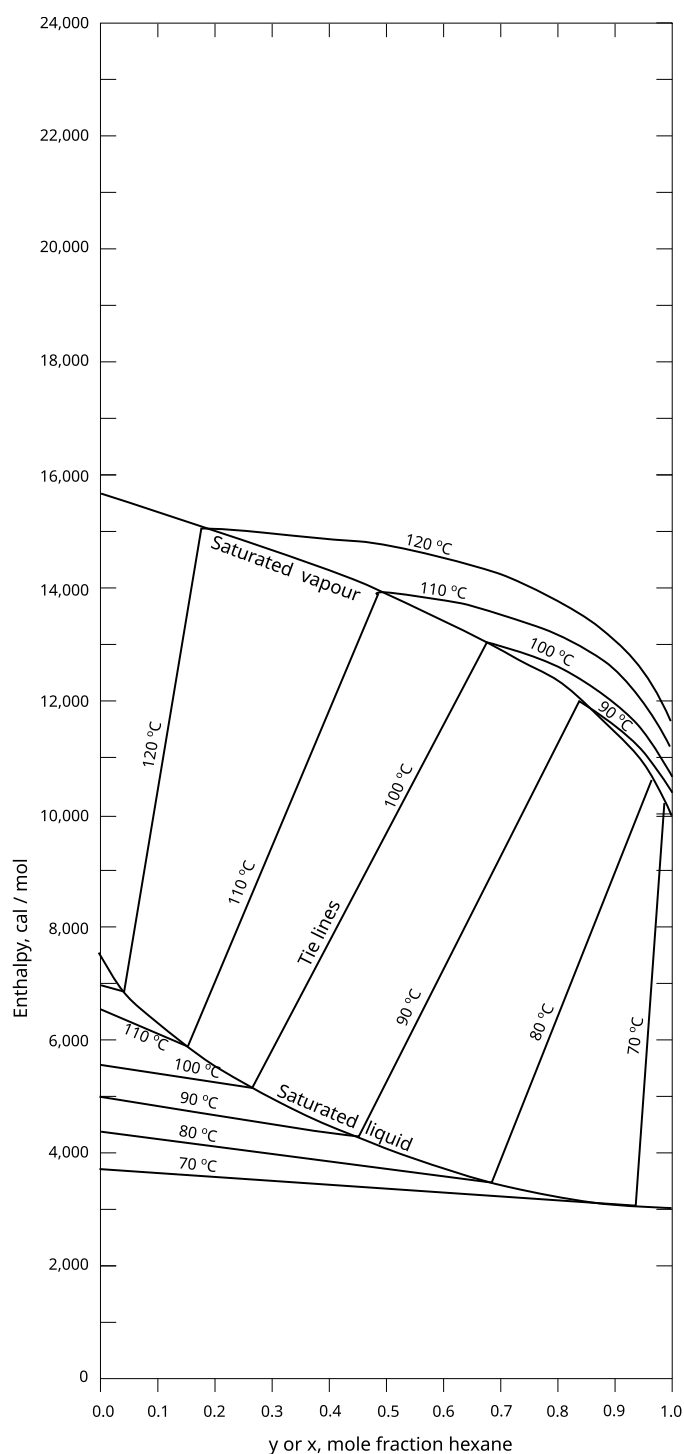

Figure 44: Enthalpy concentration diagram for hexane-octane mixtures at 760 mmHg. For use in Q. 9.40.
a) A mixture of *n*-hexane and *n*-octane is to be separated by distillation to produce a bottom product containing no more than 3 mol% *n*-hexane and a top product of at least 95% purity of *n*-hexane. An enthalpy-composition chart is given in Fig. 44 which you should use and include in your solution booklet.